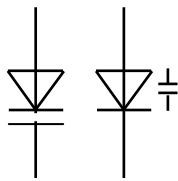

Fig. 1.11
**Varactor.** All the junction diodes have a measurable capacitance between anode and cathode when the junction is reverse biased, and this capacitance varies with the value of the reverse voltage, being least when the reverse voltage is high. In a *varactor* (Fig. 1.11) also called *voltage-variable capacitance*, *varicap* or *tuning diode*, the width of the depletion layer increases with the reverse voltage. Since the depletion layer gets wider with more reverse voltage, the capacitance becomes smaller. This is why the reverse voltage can control the capacitance of the varactor. This phenomenon is used in remote tuning of radio and television sets.